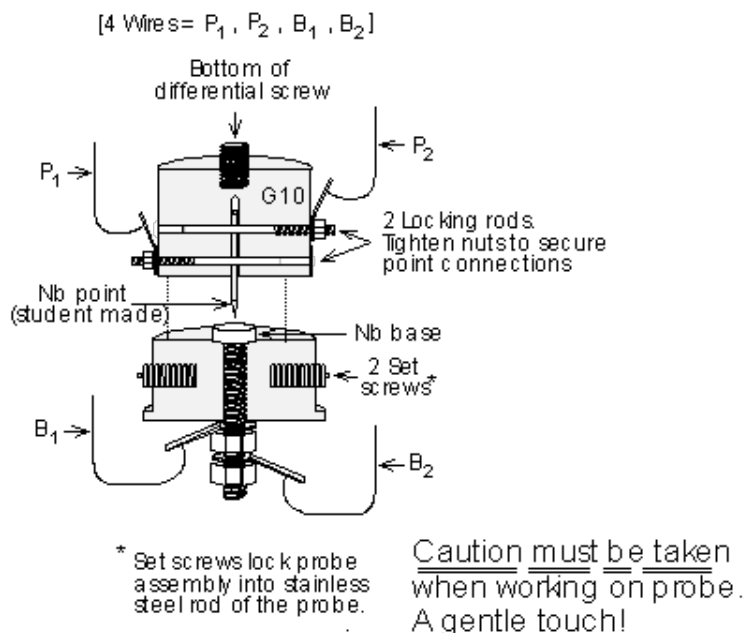

Figure 16: Details of Point Holder Construction
The junction is mounted in an assembly shown in Figure 9. To adjust the pressure in the junction, we use a mechanism called a *differential screw* (D), which moves the niobium needle point towards the niobium base screw (FB) with a great deal of control. The needle (A) fits into a hole in a form (B) made of a kind of fiberglass called "G10." The needle is held in place by two screws (not shown in Figure 9 [see Figure 16]). The body piece (B) can slide up and down on the two stainless steel rods (C). The flat base (FB) of the junction is held rigidly in place in G10 and cannot slide up or down. The differential screw (D) has pitch of 72 threads per inch at the top and a pitch of 80 threads per inch at the tip fixed in (B).
1. First back off the differential screw (D) until it comes out of the housing.
2. Loosen the nuts associated with the screws (See Figures 15 and Figure 16) which have solder lugs attached to them, in piece (G10). You usually don't need to remove the nuts entirely (and its easier if you don't).
3. Using small needle-nose pliers, gently pull the needle out of the housing (B). You can prevent the screws from falling off by placing two fingers on opposite sides of the assembly applying a slight amount of pressure on the screws with each finger to still be able to remove the old point. Keep your fingers held in place with your fingers until you install the new point. If the screws come off, worry not, instructions on how to install them back and fast will be provided to you below. Do this over a clean surface because the screws will probably fall out as you remove the needle.
2. Thread the new point through the lower screw shaft, making sure the solder lug corresponding to P1 is properly attached (see Figure 16; note that the wires are color coded).